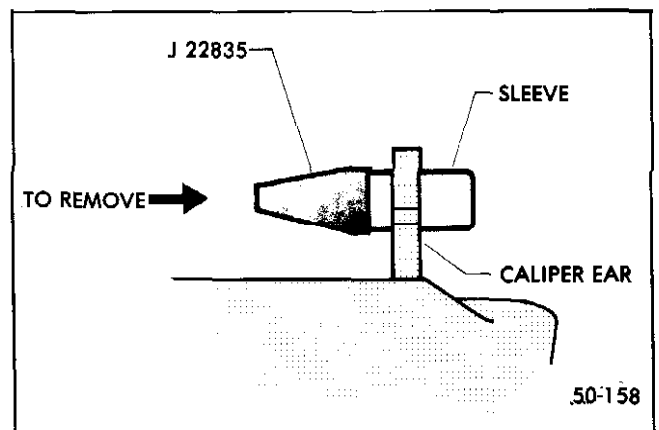

Figure 50-47 - Remove Sleeves
The significant feature of the single piston caliper operation is that it is free to slide on the two mounting bolts which thread into the support bracket. Figure 50-47 shows a simplified cross section of the caliper, with both new and worn linings, and the forces at work when the brakes are applied.
4. Using tool, No. J-22835, remove the sleeves from the inboard ears of the caliper. See Figure 50-47. Next, remove the rubber bushings from the grooves in each of the four caliper ears.